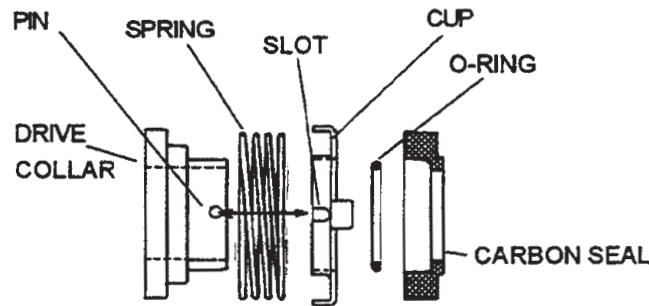

Figure 16
- Assemble the spring, seal cup, O-ring and carbon seal, and install as a unit, taking care that slot in seal cup aligns with the pin on shaft (see Figure 16). Gentle pressure on the O-ring will overcome resistance on the shaft.